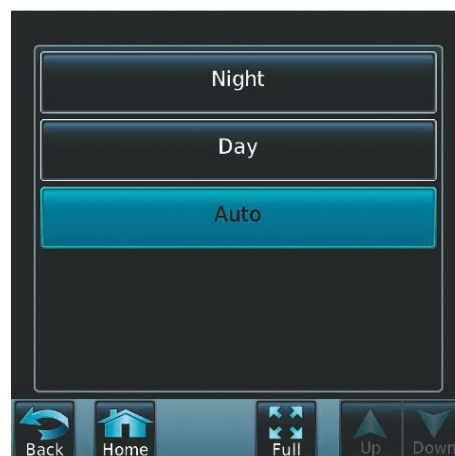

Figure 8-13 Selecting Day/Night View
- 3) Touch the **Day**, **Night**, or **Auto** button (Figure 8-13). The selection is annunciated on the **Light Mode** Button. When **Auto** is selected, the display will change to the appropriate day or night setting, dependent on ambient lighting.